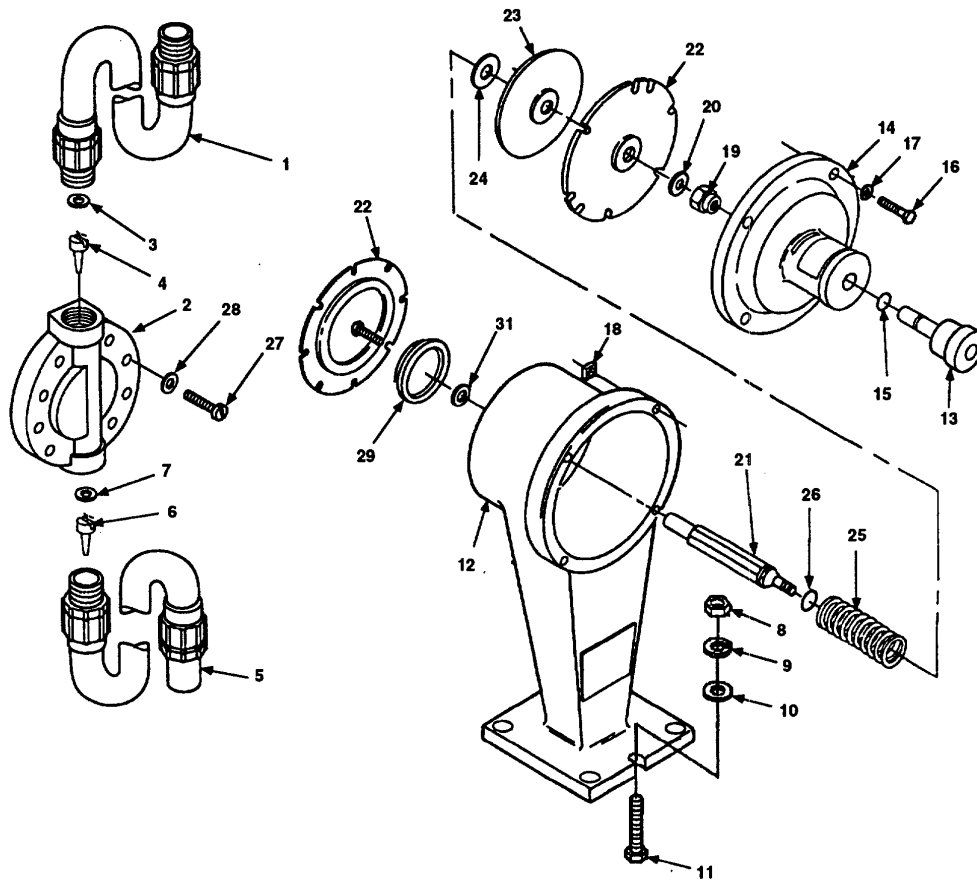

Figure 4-19. Hypochlorinator Assembly Maintenance.
- a. Unscrew and remove discharge tube (Figure 4-19, 1) from liquid head (2).
- b. Remove check valve (3) and washer (4).
- c. Unscrew other end of discharge tube (1) and remove from hypochlorination unit.
- d. Unscrew and remove suction tube (5) from liquid head (2).
- e. Remove check valve (6) and washer (7).
- f. Remove three nuts (8), lock washers (9), flat washers (10), and bolts (11). Discard lock washers (9).
- g. Remove hypochlorinator frame (12) from hypochlorination unit.
- a. Turn stroke adjust knob (13) fully counterclockwise and remove stroke adjust knob (13) from diaphragm cap (14).
- b. Remove preformed packing (15) from stroke adjust knob (13). Discard preformed packing (15).